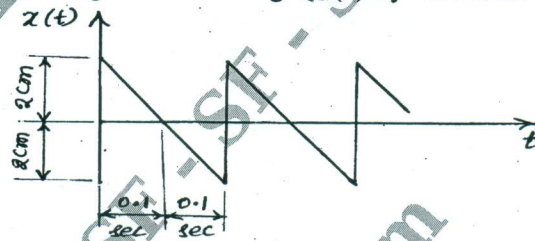

Fig.Q1(c)
- c. Represent the periodic motions given in the Fig.Q1(c) by harmonic series: